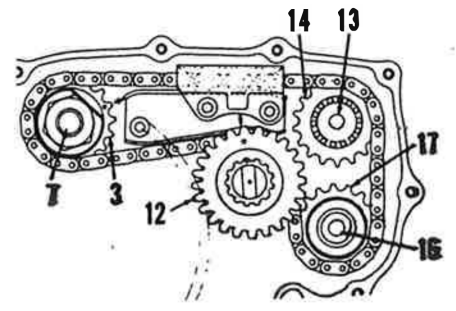

Fig. Y19-26—View of linking marks for installation counterweight drive chain on SC500 models. Refer to text for installation procedure.
Counterweight drive chain on SC500 models may be installed as follows: Install counterweight sprocket (3—Fig. Y19-26) then turn it to align punch mark with pointer cast into engine case. Install primary drive gear (12) with punch mark on gear aligned with